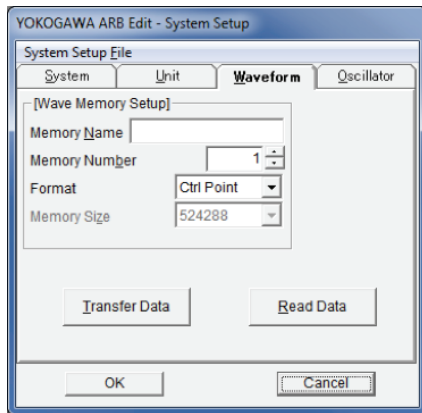

Figure 8 (B)
- See Figure 8 (A) and Figure 8 (B)